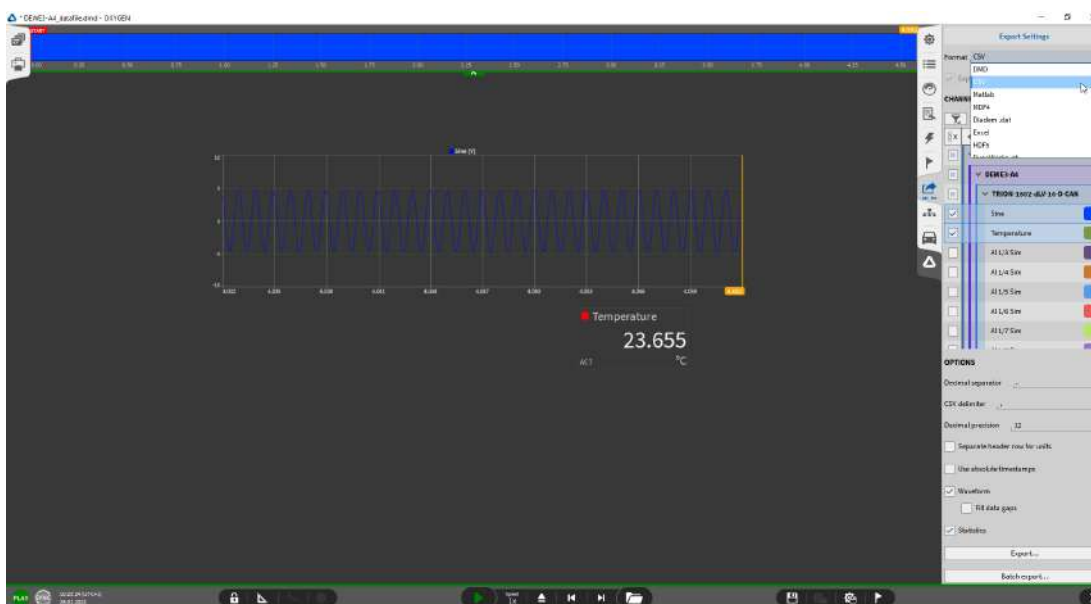

Fig. 20: Exporting data file for post-processing
The green border and PLAY indicator in the lower left corner indicate that a file is loaded for post-processing (see *Fig. 20*).
4. Click on the export button seen in *Fig. 20*.